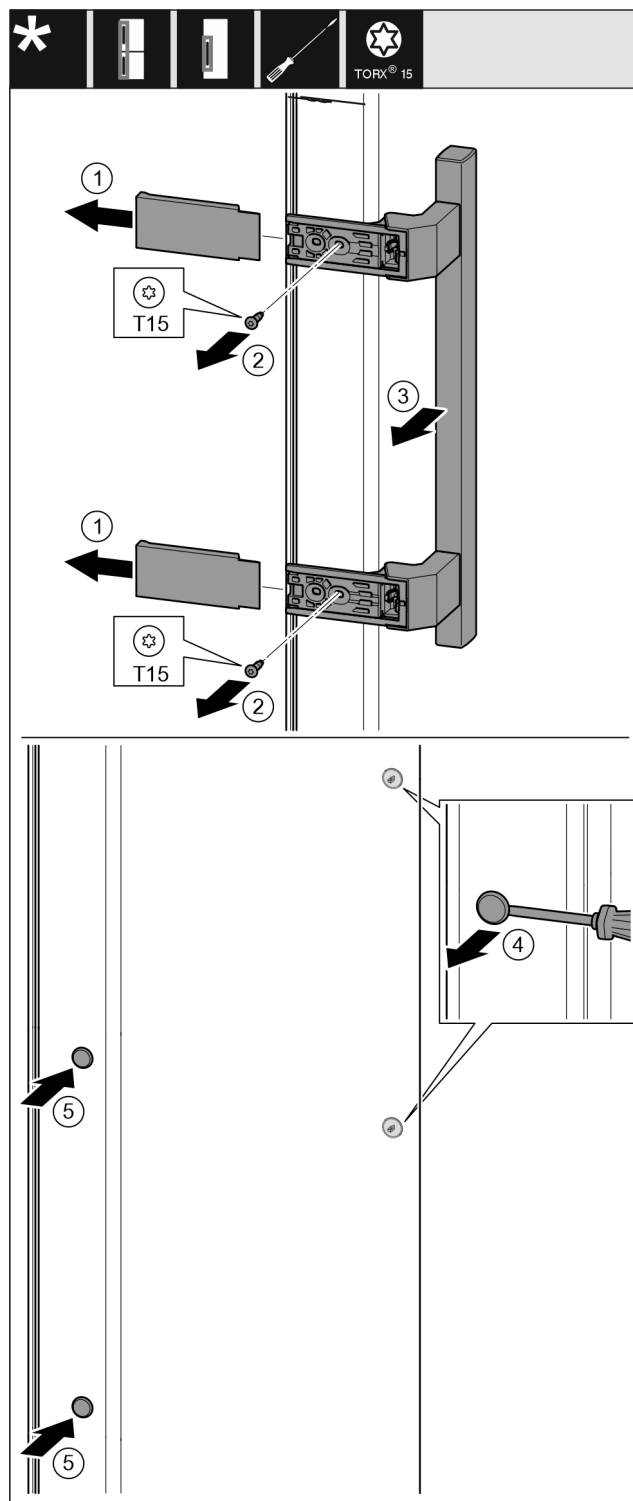

Fig. 17
- Pull off the cover. Fig. 17 (1)
- Remove the screws with the T15 screwdriver. Fig. 17 (2)
- Remove the handle. Fig. 17 (3)
- Carefully lift up the side plugs with a slotted screwdriver and pull them out. Fig. 17 (4)
- Insert the plugs again on the other side. Fig. 17 (5)